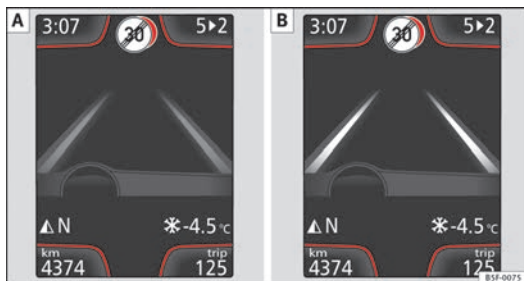

Fig. 97 On the instrument panel display: Indication on the Lane Assist system display (example 1)
- The system is active, but not available, either because the minimum speed has not been reached or because the lane lines are not recognised ⇒ Fig. 97 [A].
- The system is active and available, both lane lines are recognised. The steering angle is not being corrected at this moment ⇒ Fig. 97 [B].